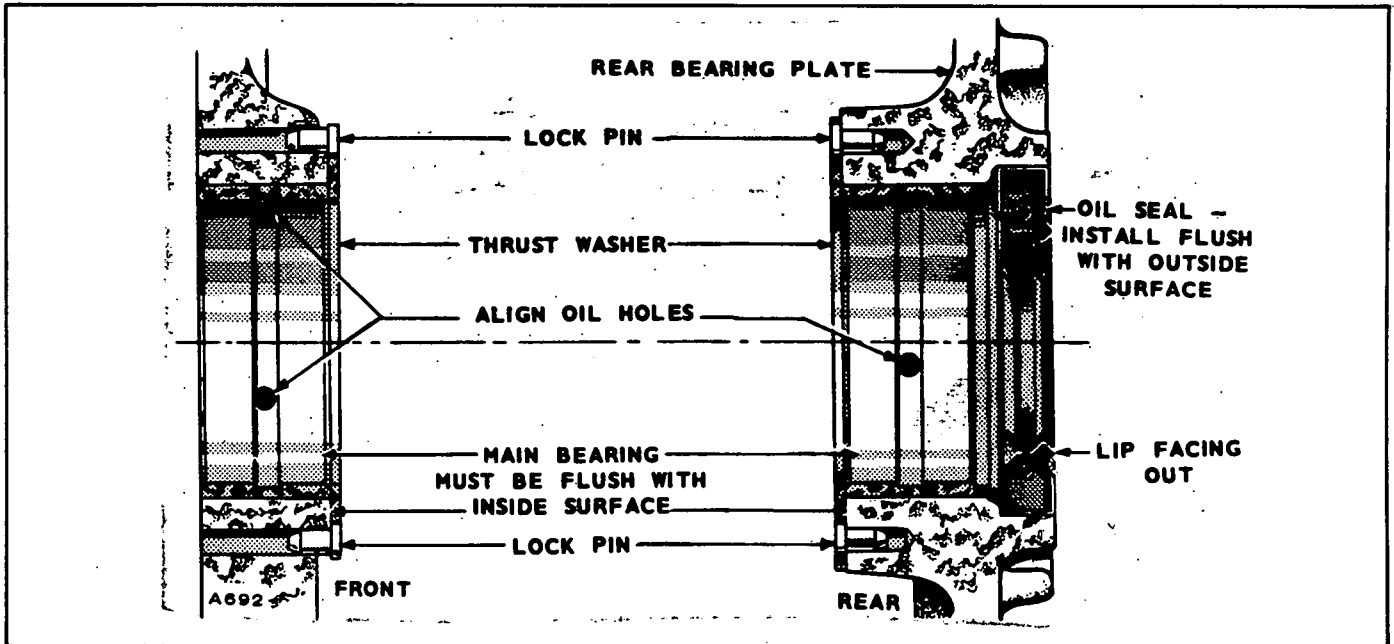

FIGURE 58. MAIN BEARING INSTALLATION
Rear Oil Seal: The rear oil seal is in the rear bearing plate. If damaged, drive it out from the inside of the plate. Using the oil seal installing tool, install a new seal with the rubber lip facing outward (open side of seal inward). See Figure 58. Drive the new seal flush with the rear surface of the bearing plate. Leave the seal installer on during bearing plate installation to protect the oil seal.
1. Press the front and rear main bearings into place, aligning the bearing and bearing housing oil holes. Do not attempt to drive a bearing into a cold block or rear bearing plate. See Figure 58.